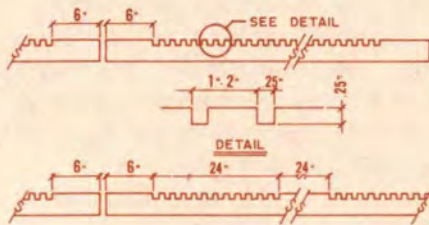
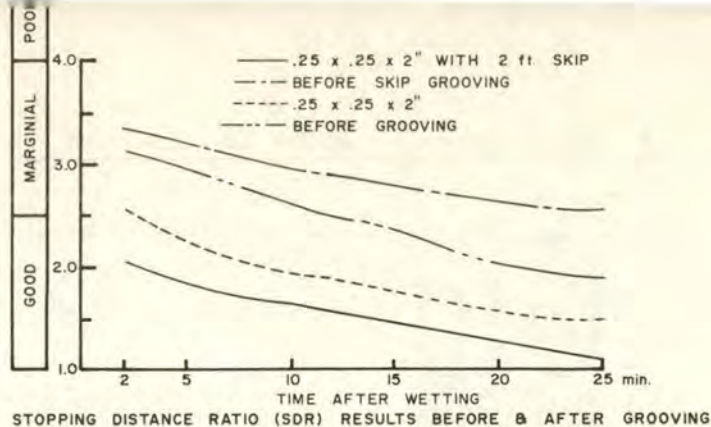

Figure 1
Figure 3
The British first used grooving to improve traction on their roads in the early 1960's. Since that time, grooving has been used on all types of pavement to help improve available traction. In the US considerable research has been and is being conducted to determine the best groove pattern (see Figure 1 for examples of patterns now in use). Most authorities now agree that a $\frac{1}{4}$ " x $\frac{1}{4}$ " groove on 1" to 1 $\frac{1}{4}$ "
The FAA is continuing limited work to determine the best compromise between cost of construction and traction requirements. The patterns in Figure 1 have all been evaluated by the AF Standard Skid Resistance Evaluation System and found to have good traction characteristics. Figure 3 shows some before and after results which indicate the effectiveness of grooving. From a civil engineering aspect, grooving is probably the easiest method of improving traction on runways. However, there are two USAF limitations of which operators should be aware. First, a HQ USAF policy letter (25 Sep 75) and AF Manual 91-23 limit grooving to beyond 1500 feet from the threshold and to a maximum width of 140 feet. Secondly, it is AF policy not to groove asphaltic concrete (AC) surfaces.
caused by a polished aggregate and/or rubber build-ups. Figure 3 provides comparisons between some typical grooved and ungrooved runways. As the figure shows, there are dramatic improvements in the results obtained after grooving.